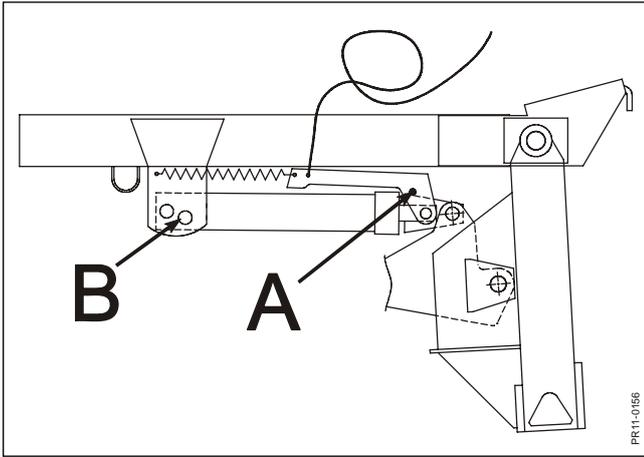

Fig. 3-18
**Fig. 3.18** Before turning, lock the stop with a pin A. This pin is fastened to the PTO drive shaft with a chain and can only be mounted when the PTO drive shaft has been dismantled. Place the PTO drive shaft in the holder after dismantling. Only dismantle the half of the PTO drive shaft towards the machine. Fasten the hydraulic cylinder in hole B intended for oblique driving.